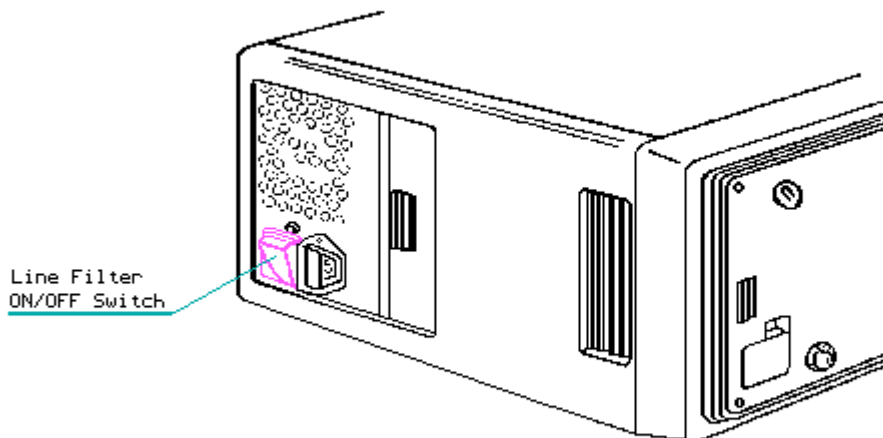

Figure 7-3. Locating the Line Filter ON/OFF Switch Assembly
2. Slide open the AC power compartment to expose the line filter ON/OFF switch (Figure 7-3).